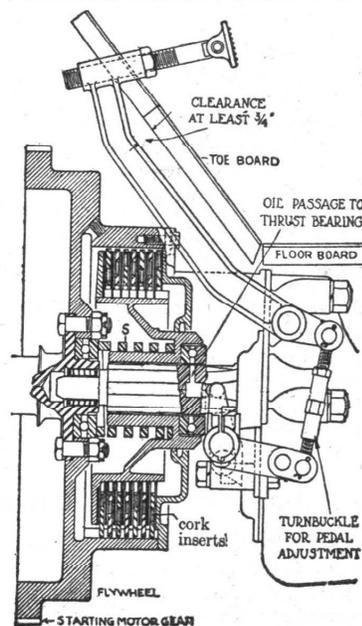

Fig. 31. Sectional view of a multiple-disk cork-insert lubricated type of clutch. Note adjustable foot-pedal.
The clutch spring (S) (Fig. 31) is not adjustable; a new and stronger spring is installed if greater tension is required. The position of pedal will shift toward floorboard after clutch has been in service a short time, because inserts, when brought under pressure of clutch spring, will compress slightly.